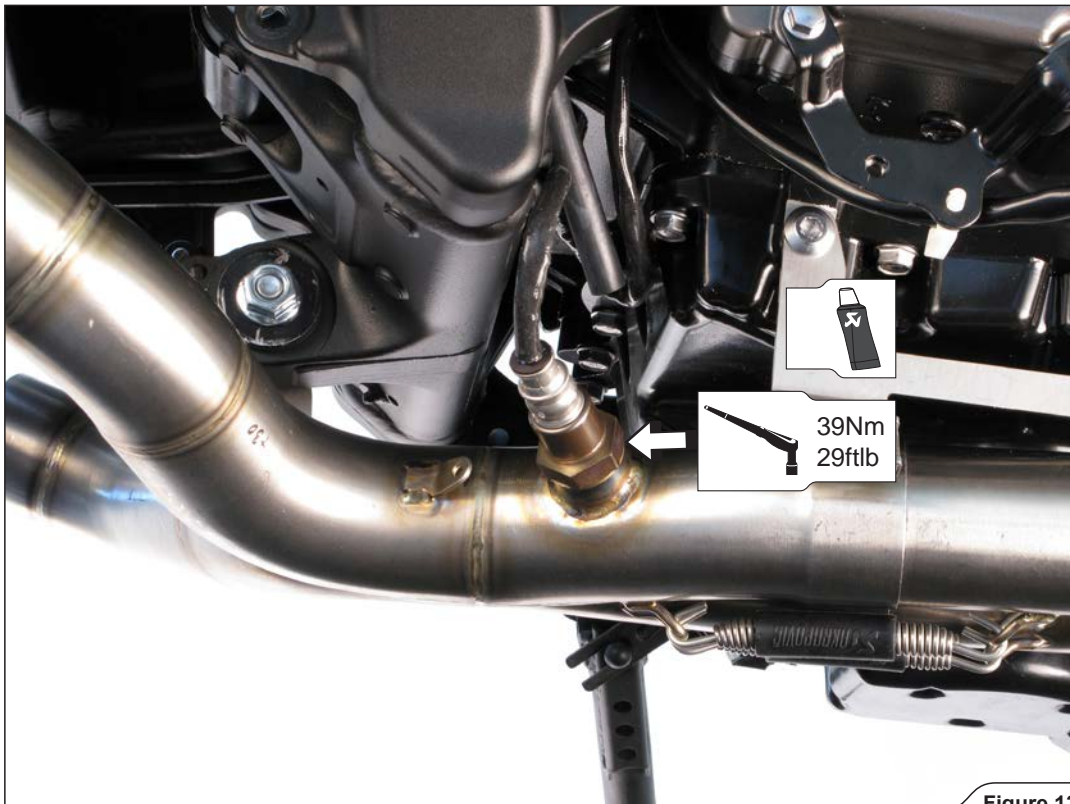

Figure 13
6. Reinstall the lambda sensor (Figure 13).